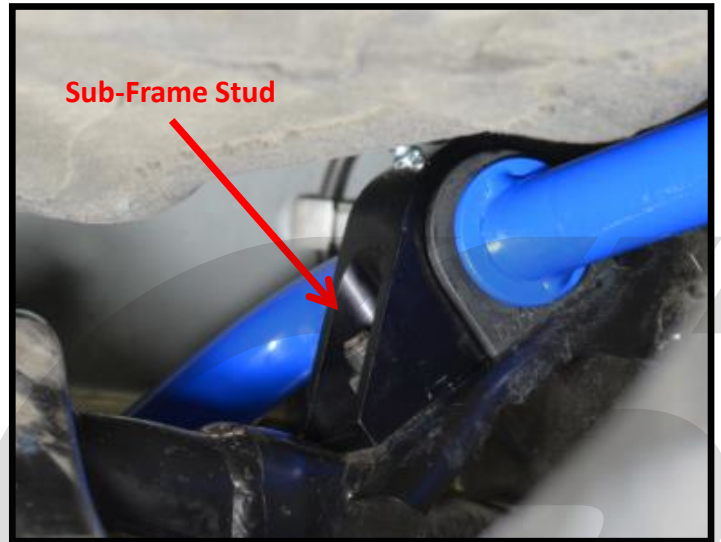

Figure 3d
- c) **Insert the bar back into the factory position.** Make sure the studs in the sub-frame come through the slots in the brackets. Refer to **Figure 3d** for a detailed picture.